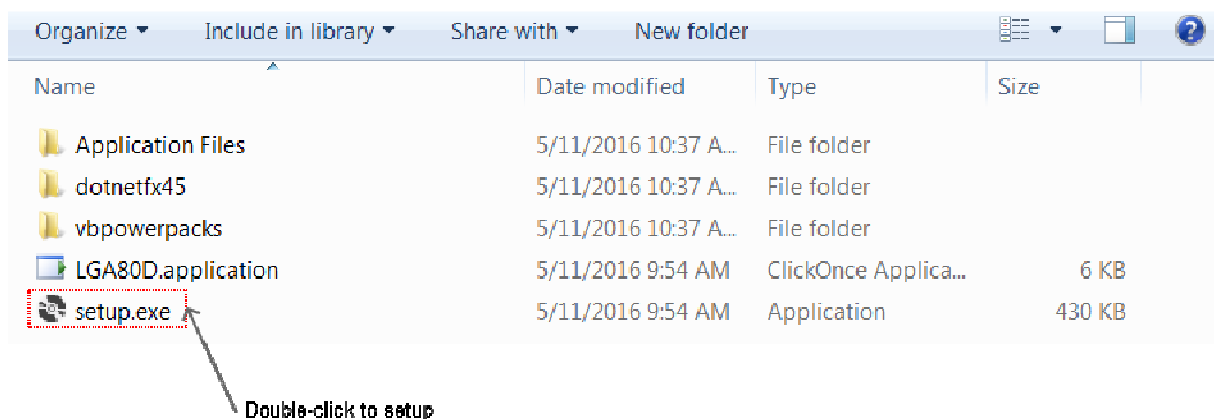

Fig. 1 – Setup CD content
- Extract the contents of the file until you find the folder that contains the setup software (Fig. 1). Note the illustrations that point to the setup software LGA80D.